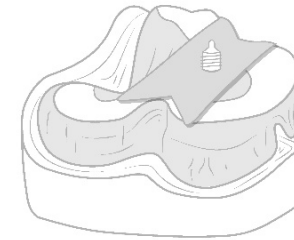

Fig. 2
10. The pin supporting plate is heated and immersed in the wax wall until the registration pin in regio 15/25 is positioned at the height of the occlusal level and is vertical. The wax wall is to be reduced such that there is no longer any contact between the upper and lower wax wall during the movements. Create notches to help with keying (Fig. 2).